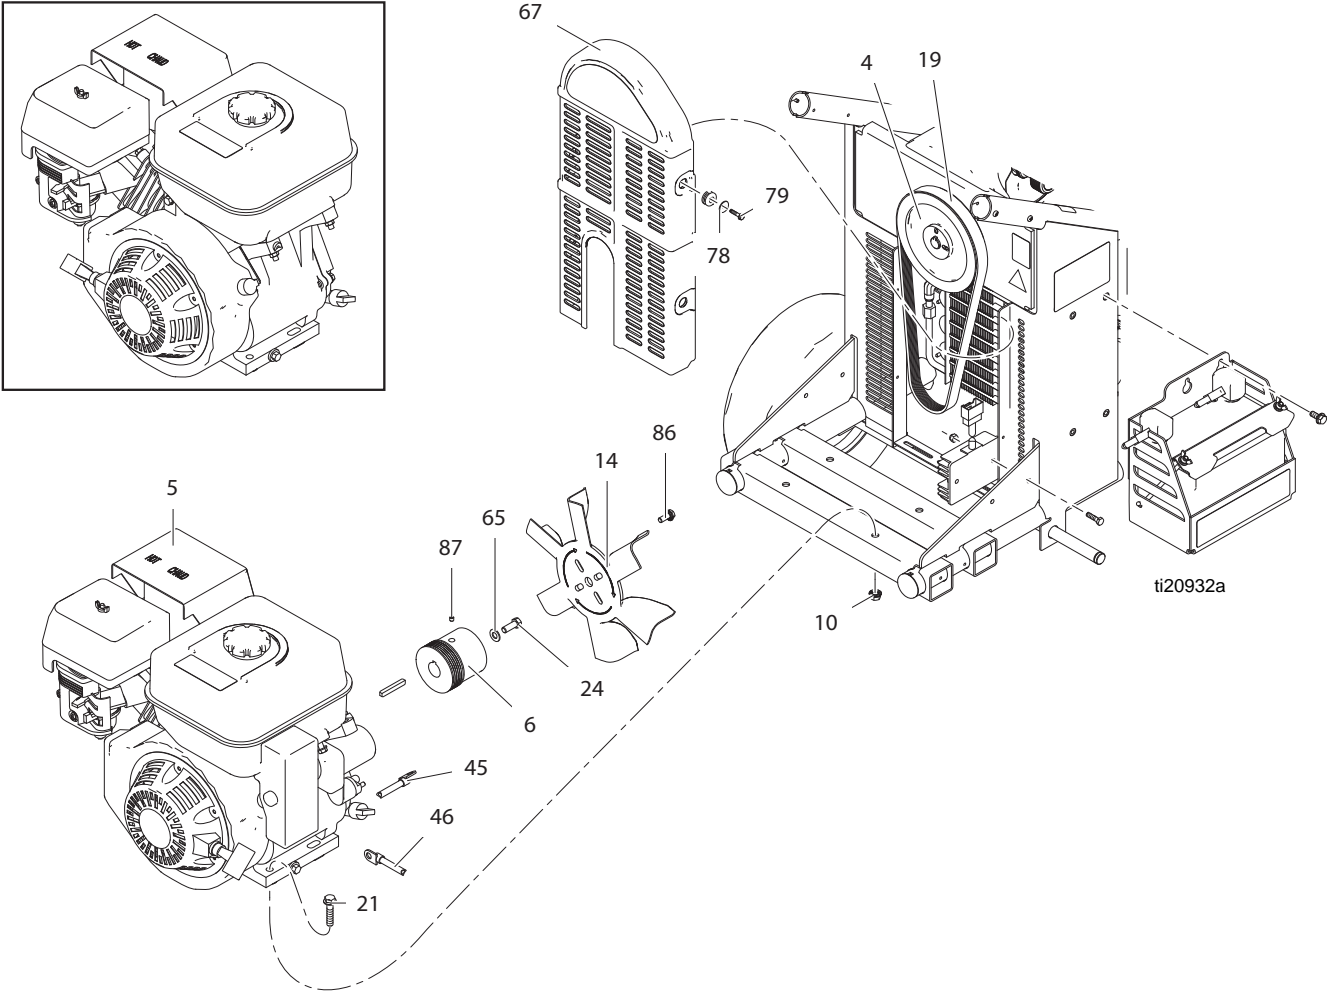

FIG. 1
2. Remove screws (79) and washers (78) and belt cover (67). See FIG. 1, page 29.
3. Remove belt (19), page 21.
4. Remove screws (21), washers (70) and nuts (10) securing motor (5) to frame.
6. Remove motor (5) from frame.